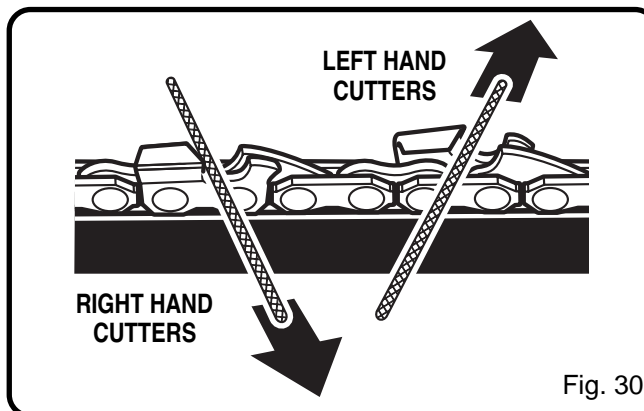

Fig. 30
- Put a few firm strokes on every tooth. File all left hand cutters in one direction. Then move to the other side and file the right hand cutters in the opposite direction. Occasionally remove filings from the file with a wire brush. See Figure 30.